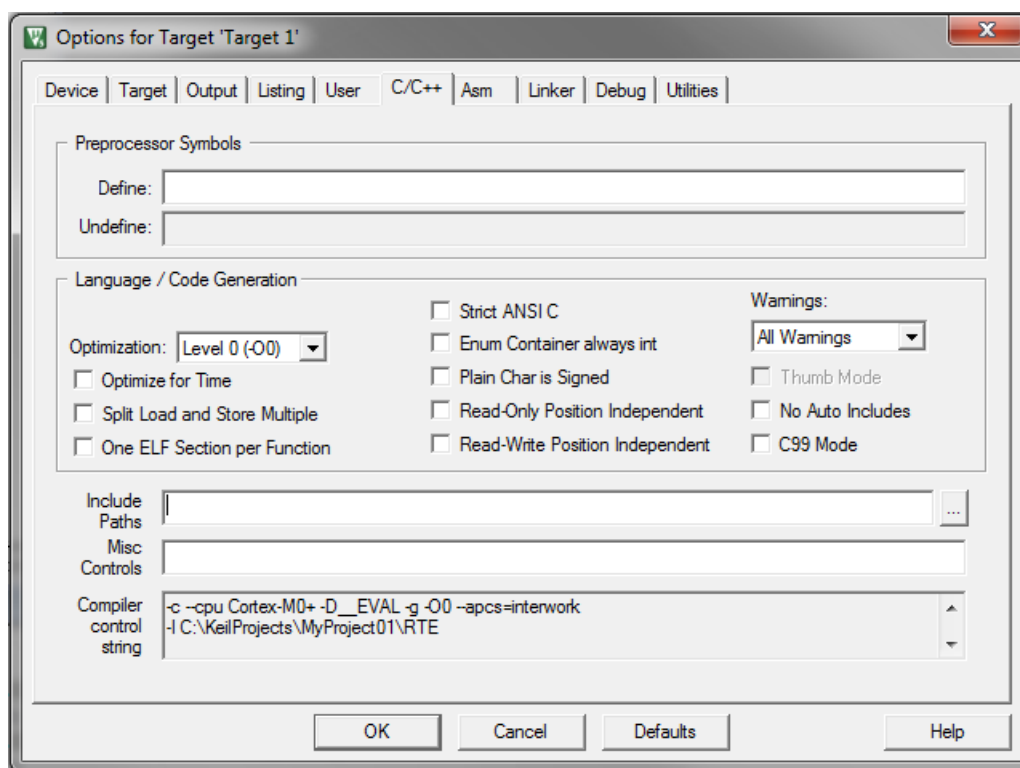

Figure 1-36. Library path addition
2. Select the C/C++ tab. See Figure 1-36.